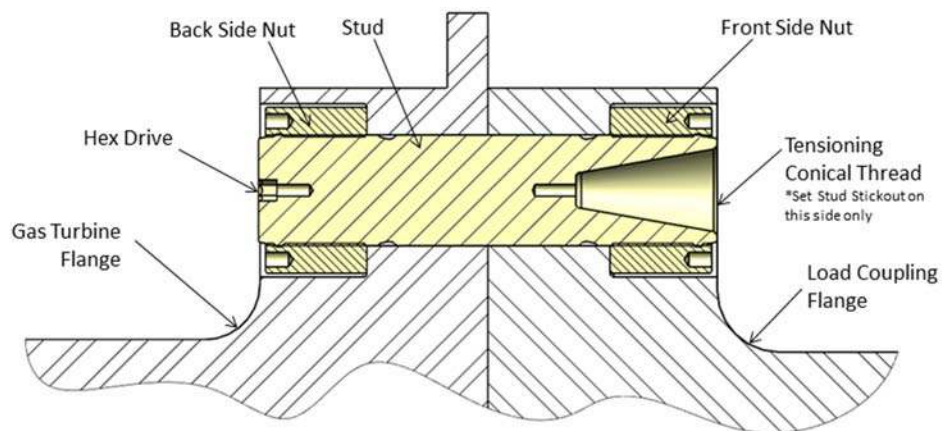

Figure 6A – Cross-section View of Gas Turbine to Load Coupling Bolted Flange Connection
4. Slide the stud, and nut into the flange as shown in Figures 6a and 6b.